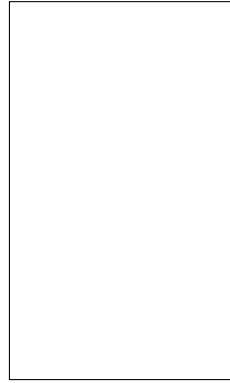

Figure 9: Schematic of the connection between Arduino UNO and the MCP4921.
1. Using Fig. 9 as a reference, connect the Teensy to the MCP4921 DAC. Connect the MCP4921's VDD pin to the output of the LM317 regulator (5 V). Connect the MCP4921's VREF pin to the LT1009 reference's output (2.5 V). Connect both AVSS and  $\overline{\text{LDAC}}$  of the MCP4921 to ground. A 0.1  $\mu\text{F}$  and a 1  $\mu\text{F}$  capacitor could be used at VREF to minimize noise at the reference. It is very important to keep your circuit (ICs, resistors, capacitors, wires, etc) organized. Use as short of a wire as possible between two connection points. Refer to Fig. 10 for an example layout.